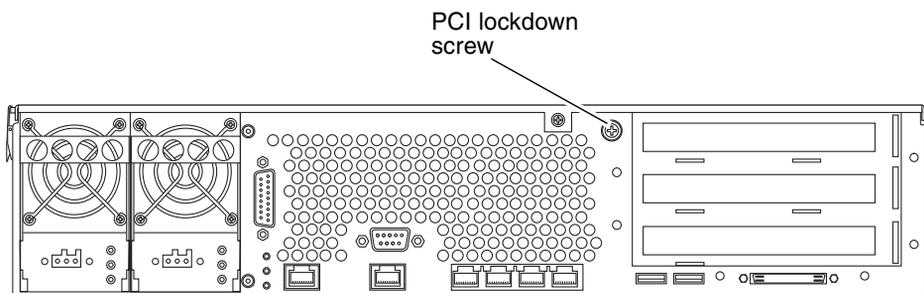
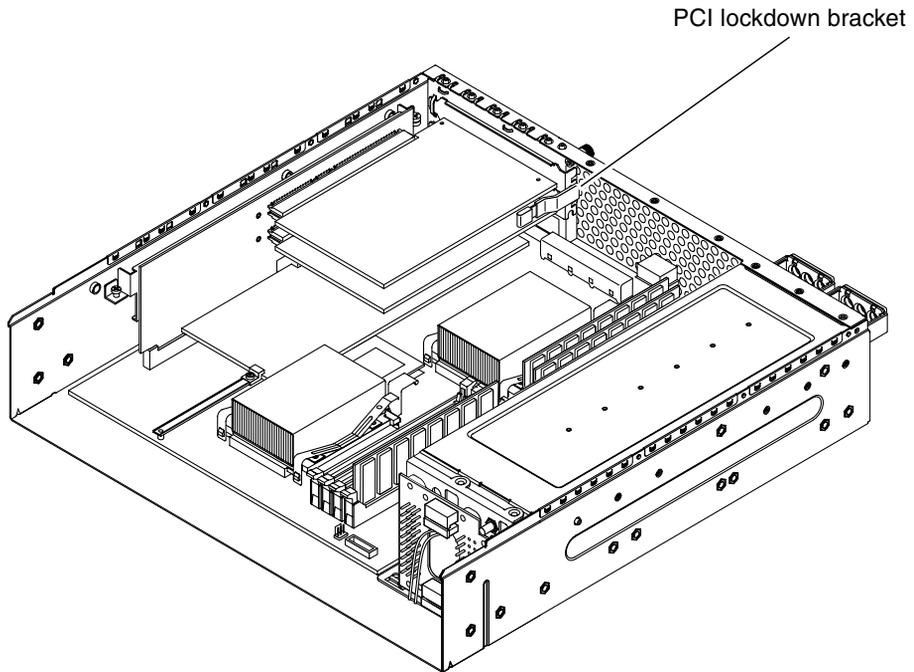

FIGURE 5-4 Location of the PCI Lockdown Screw
FIGURE 5-5 Location of the PCI Lockdown Bracket
6. Using a No. 2 Phillips screwdriver, unscrew the PCI lockdown screw on the back of the server (FIGURE 5-4).
7. Remove the PCI lockdown bracket on the inside of the server (FIGURE 5-5).
4. **Reattach the PCI lockdown bracket and tighten the PCI lockdown screw (FIGURE 5-5 and FIGURE 5-4).**